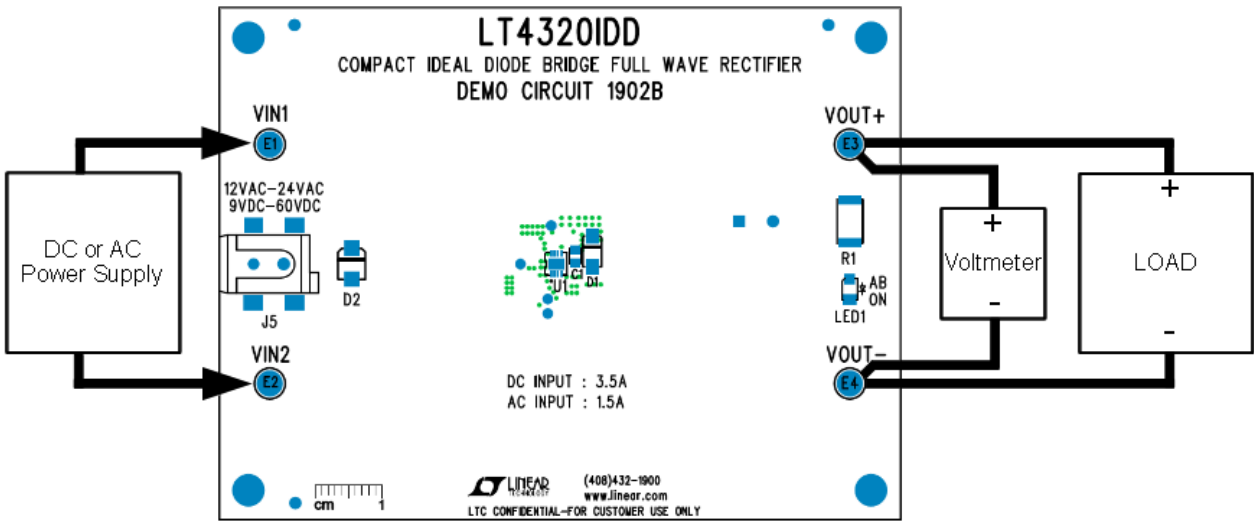

Figure 1. DC1902B Setup
1. Connect a DC or AC power supply to VIN1 and VIN2 in any polarity as shown in Figure 1. Make sure the output voltage of the DC or AC power supply is within the input voltage range of the DC1902B as shown in Table 2.
2. Connect a load and a voltmeter across VOUT+ to VOUT- as shown in Figure 1.